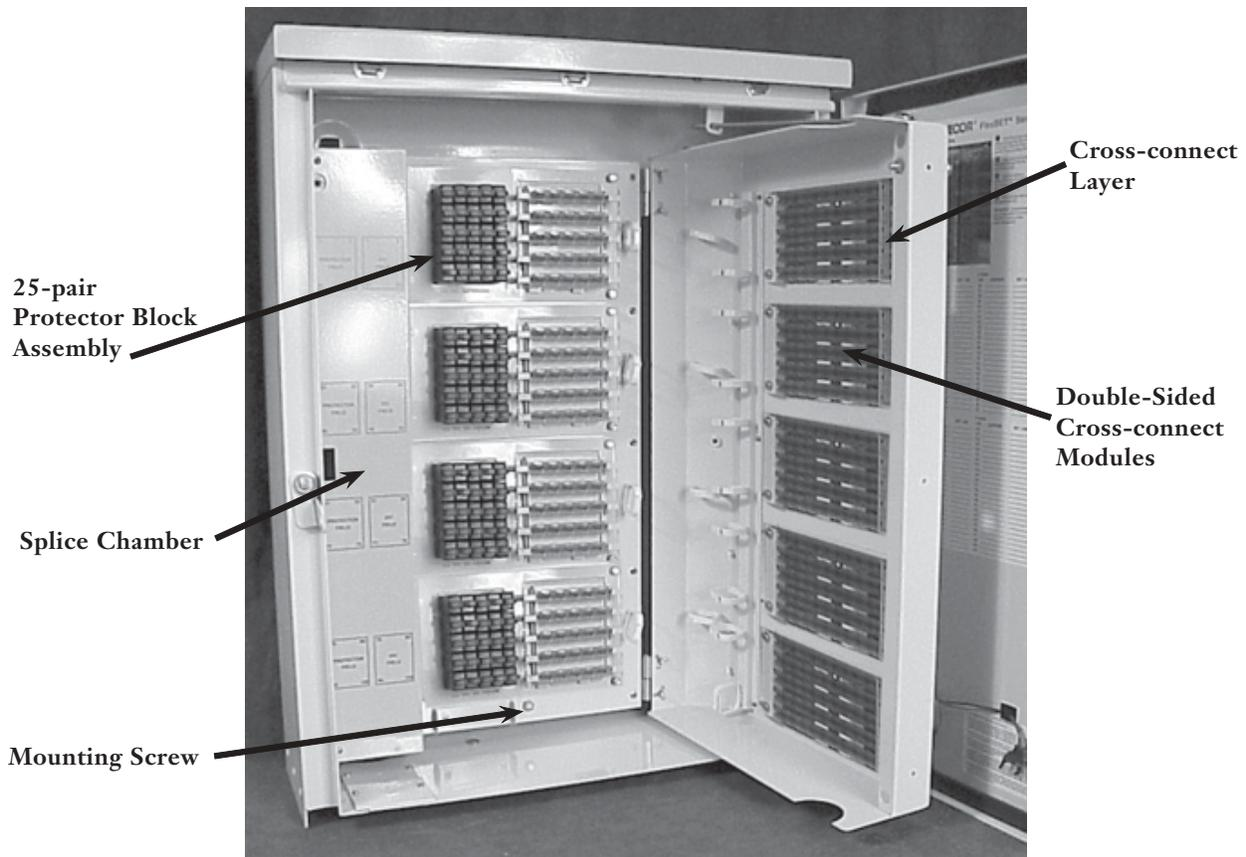

Figure 2
**5.4 Direct Wall Mount Method (Outdoor enclosures)** — Open the unit and remove the inner components from the housing by removing the mounting screw (Figure 2) at the bottom of the BET layer. Push in the door stop and remove the cabinet door. Use the template provided with the unit to position the screws (hardware is not included). Drive in the upper screws halfway, position the cabinet on the screws, level the unit, and then tighten the screws. Drive in the lower mounting screws to secure the unit. Cover all mounting holes with sealant to prevent water intrusion.